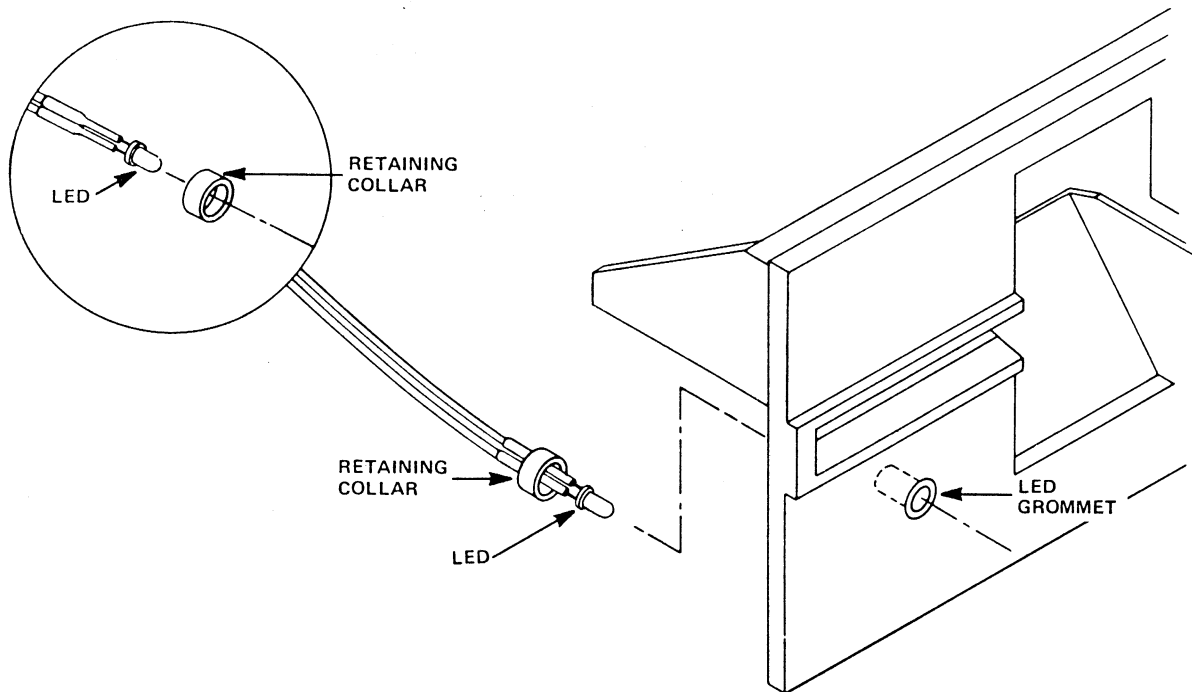

Figure 5-12
5.7.3 Remove the retaining collar that attaches the Activity LED Assembly to the front panel by taking a pair of needle nose pliers and gently pulling the retaining collar away from the front panel (see Figure 5-12).
- 5.7.10 Push the Activity LED Assembly retaining collar over the back of the LED grommet (see Figure 5-12).